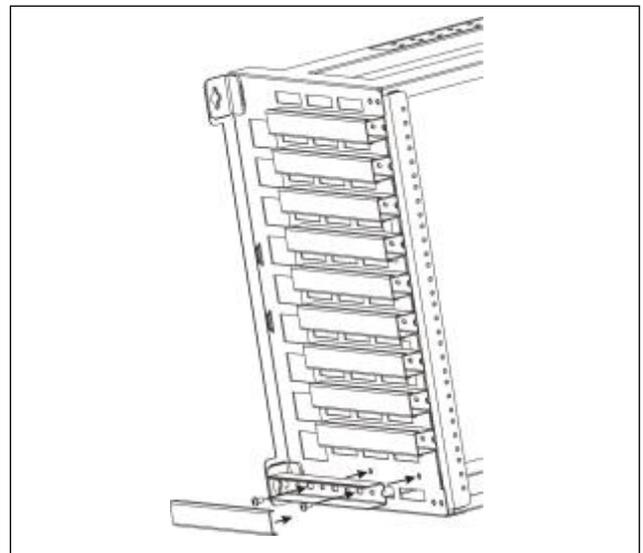

Figure 8. Cable guide installation
- ② Attach ground lugs associated with each equipment chassis to the threaded ground holes on the WR-10U23 crossbar as needed.
- ① To install a cable guide to the side of the mounting, first remove the sliding cover from the cable guide. Insert two of the #10-32 x 3/8" screws (included in CG-5 package) through the cable guide and into the threaded holes on the side of the WR-10U23 frame (Figure 8).